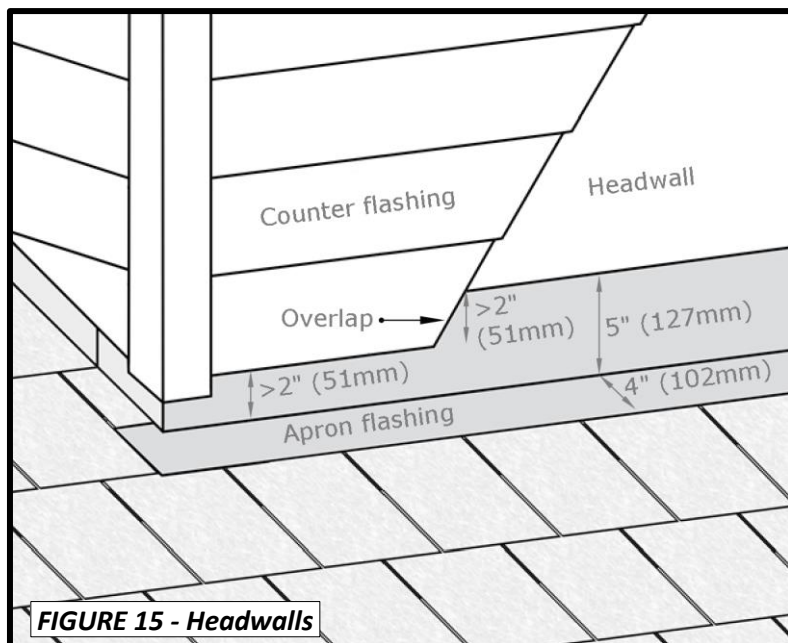

FIGURE 15 - Headwalls
- Apply second row of shingles over metal flashing on the roof surface and trim to cover just exposed metal. Use FWAVE approved sealant and adhesive, (see **Table 1**), to adhere the cut shingle to the metal apron. See **Figure 15**.